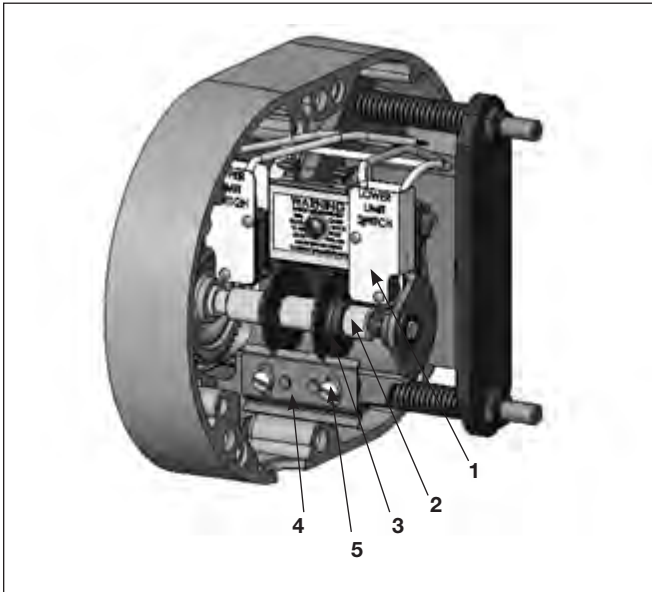
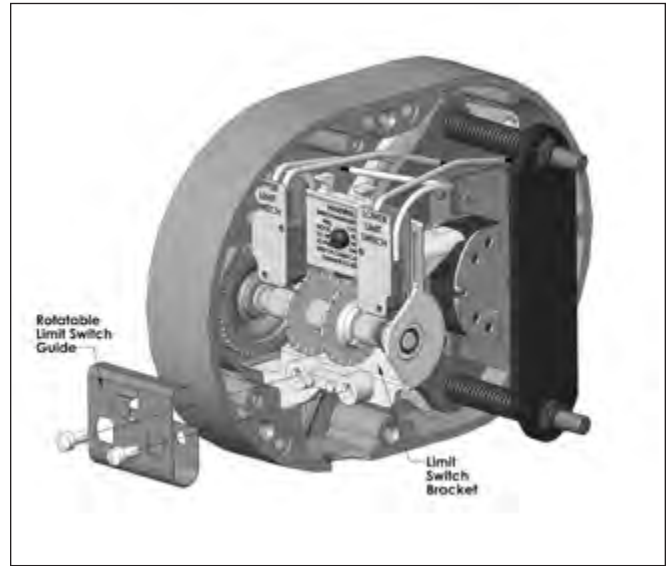

Figure 16. Limit Switches, Models A thru H-2
Figure 16a. Rotatable Limit Switch, Models A thru H-2
4. Loosen the screws to permit guide plate to be moved out of engagement with the traveling nuts, refer to Figures 16 and 17. For Rotatable Limit Switch, slightly pull out on the guide spring, disengaging the the travel nut, refer to figure 16A and 17A.